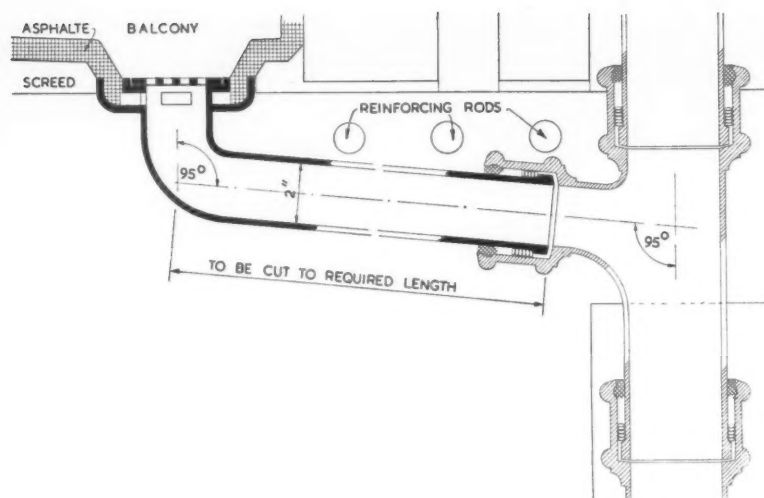

Fig. 22. Shallow rainwater outlet for balconies
**Balcony Rainwater Outlet.** A new type of rainwater outlet from balcony floors (Fig. 22) was designed because existing commercial patterns are too deep for convenient housing between reinforcement in shallow floor thicknesses and also too short for convenient connection to down pipes inside internal ducts.